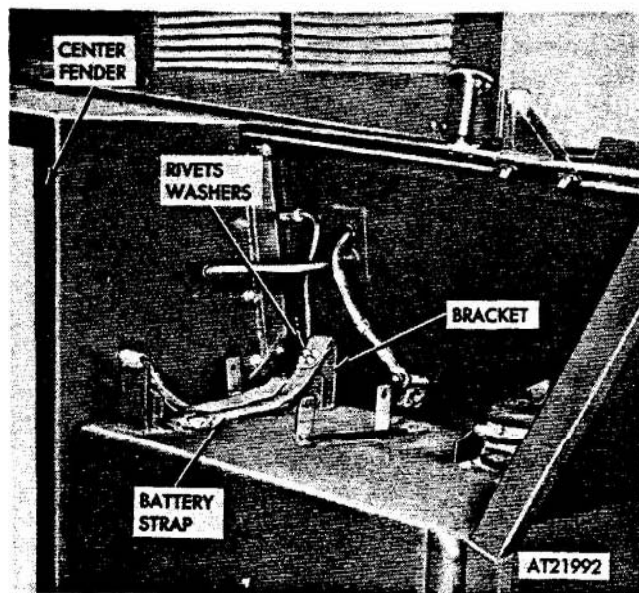

Figure 2-340. Battery box strap assemblies, removal and installation.
(1) Loosen strap and remove battery box and battery (refer to para 2-80).
(2) Remove rivets securing upper and / or lower strap assemblies to brackets and remove straps (fig 2-340).
(1) Position upper strap assembly and / or lower strap assembly through their respective brackets) and install rivets and washers securing strap assembly (fig 2-340).
(2) Install battery and battery box (refer to para 2-80).